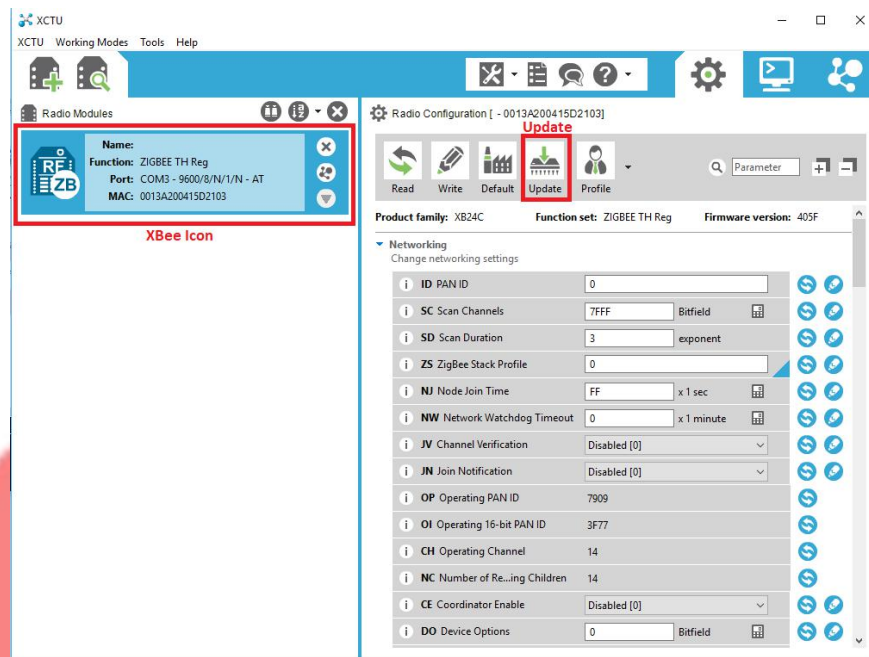

Figure 9: XCTU window
7. **Updating the XBee Firmware** - Once the XBee module has been detected, click on the XBee Icon to show the **Radio Configuration Properties** (shown in Figure 9). Click on Update button.